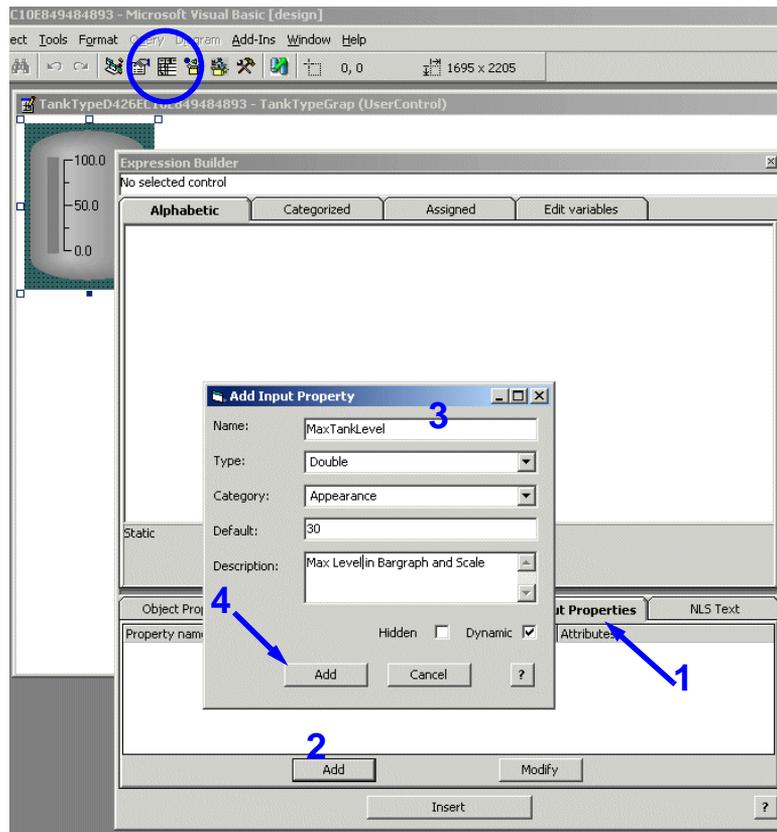

Figure 135. Define Input Property
1. Select the tab for **Input Properties**. See Figure 135.
2. Click the **Add** Button. See Figure 135.
3. Enter a **Name** for the Input Property and select the Data Type, in this case a **Double**. See Figure 135.
- Click **Add** Button. See Figure 135.